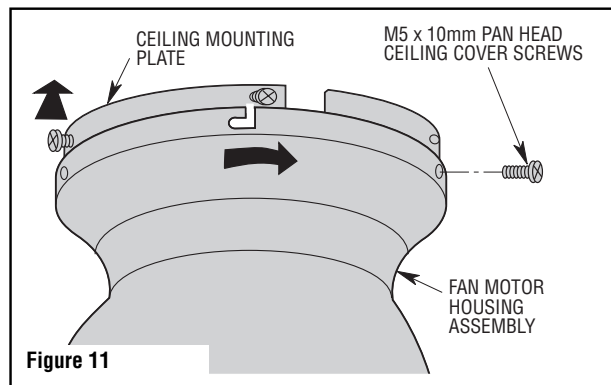

Figure 11
- Remove one of the four screws in the ceiling mounting plate and loosen the remaining three screws (Figure 11).
- Unhook the fan motor housing from the ceiling mounting plate hook and lift the fan motor housing assembly up to the ceiling mounting plate. Align and engage the motor assembly slots with the three screw heads previously loosened by rotating the fan motor housing assembly to engage the screw heads and all three slots. Install the previously removed M5 x 10mm screw and secure the assembly to the plate (Figure 11). Completely tighten all four screws.